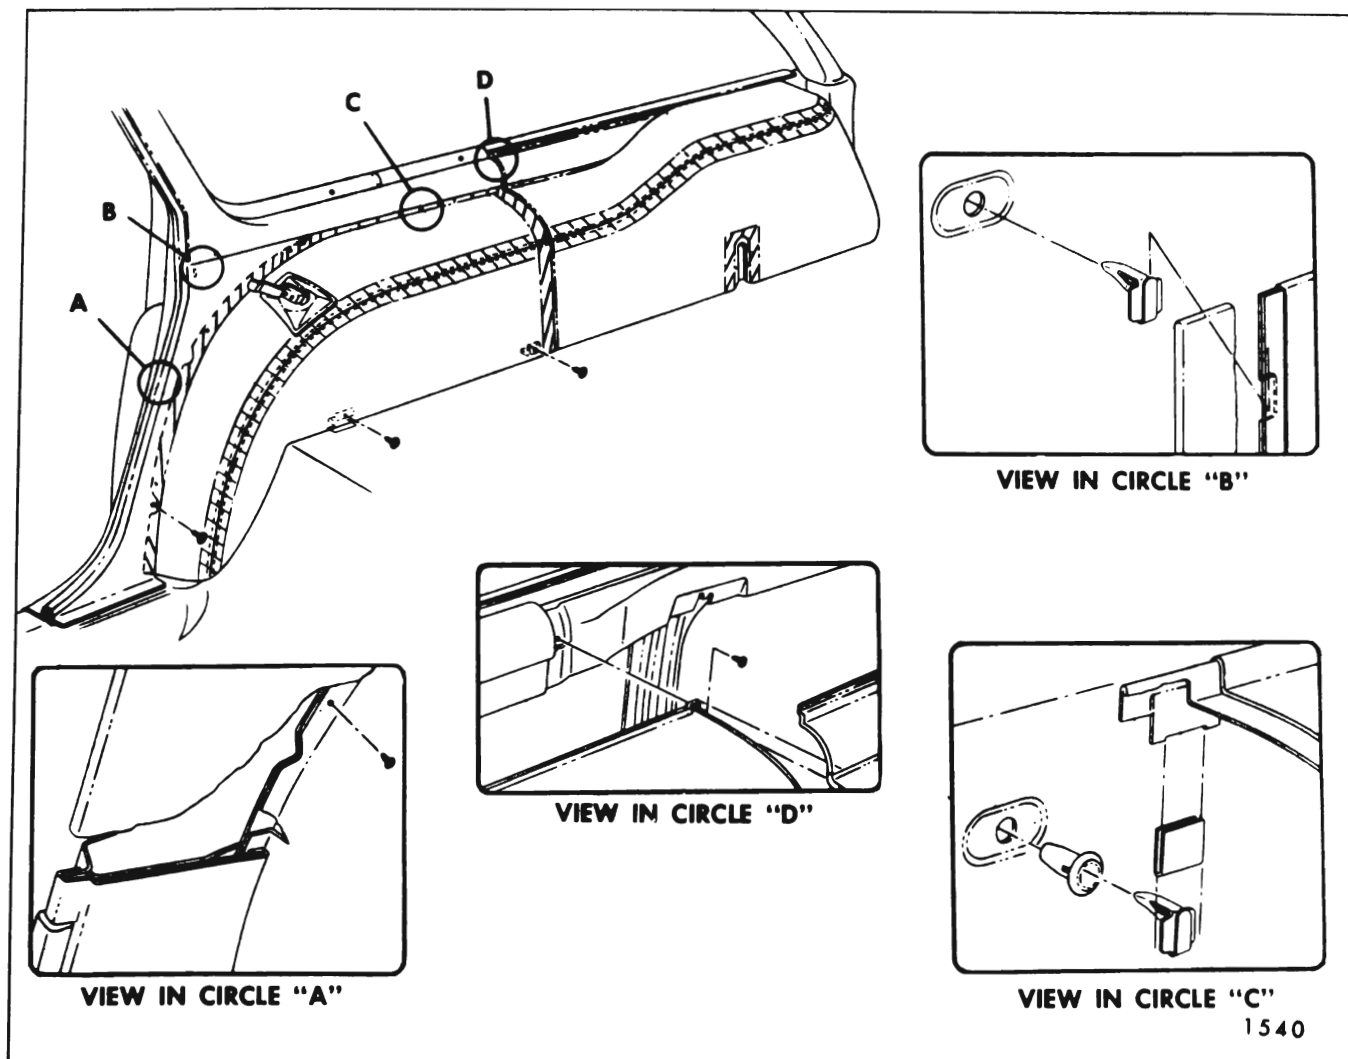

Fig. 14-36—Rear Quarter Trim Panel, Right Side - "A" Station Wagons
2. Remove exposed screw at lower end of trim panel (see Fig. 14-36 and 14-37).
3. With a flat-bladed tool, disengage trim retaining clips from quarter inner panel (see view "B" in Fig. 14-36).
The spare tire cover panel is retained at belt line by a screwed-on garnish molding and at the load floor level by a folding (catch-type) handle. To remove cover, open catch handle and swing bottom edge of assembly upward to disengage upper edge from beneath garnish molding (see Fig. 14-36): To install, reverse removal procedure.
3. Remove all trim attaching screws at front, rear and bottom of wheelhouse trim cover (See Fig. 14-36).
4. With a putty knife, or other suitable flat-bladed tool, disengage trim retaining clips from sealing plugs along top of wheelhouse cover panel and remove panel from body (see View "C", in Fig. 14-36).